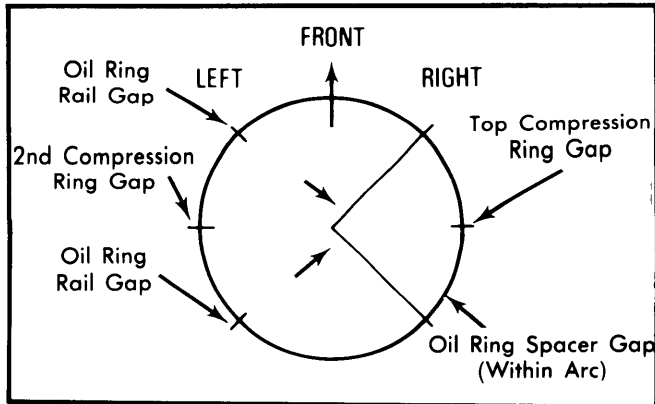

Fig. 5 Desired Ring Gap Locations
- 3) To check fit of rings in cylinder bore, insert ring in cylinder bore and push ring into bore 2" with head of piston and measure ring end gap with a feeler gauge. Before installing rings on pistons, ensure ring grooves are clean of carbon and inspect grooves for nicks or burrs. Install rings with gaps positioned as shown in Fig. 5.